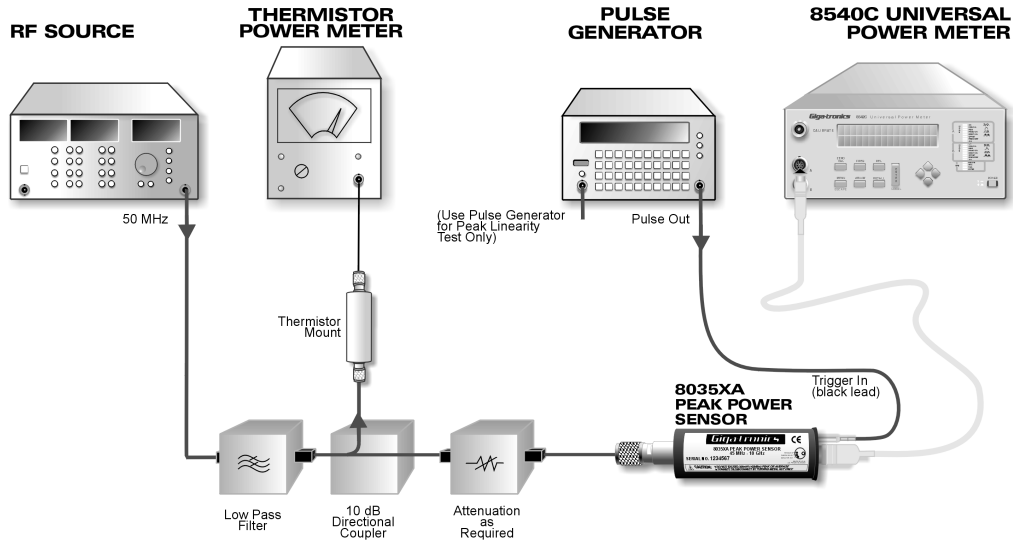

Figure 4-1: Power Linearity Test Setup
1. Connect the test setup as shown in Figure 4-1. Set the RF source to 50 MHz. Be sure the sensor has had at least 24 hours of warm-up time. To take accurate measurements, it is essential to take out any drift that might occur.